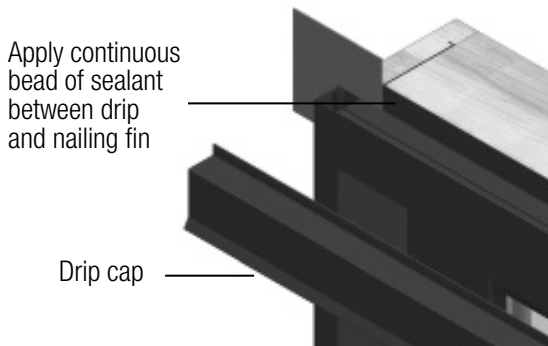

FIG. 15
- A) Apply a 1/4" continuous bead of 100% silicone sealant to the top of each joint where the jambs meet the head. (Fig. 15)